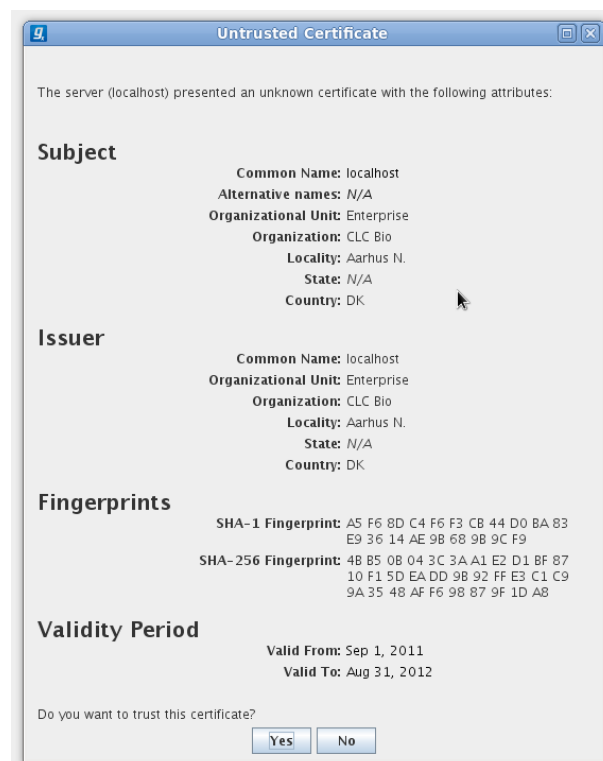

Figure 3.6: A warning is shown when the certificate is not signed by a recognized CA.
If SSL is detected, the server's certificate will be verified and a warning is displayed if the certificate is not signed by a recognized Certificate Authority (CA) as shown in figure 3.6.